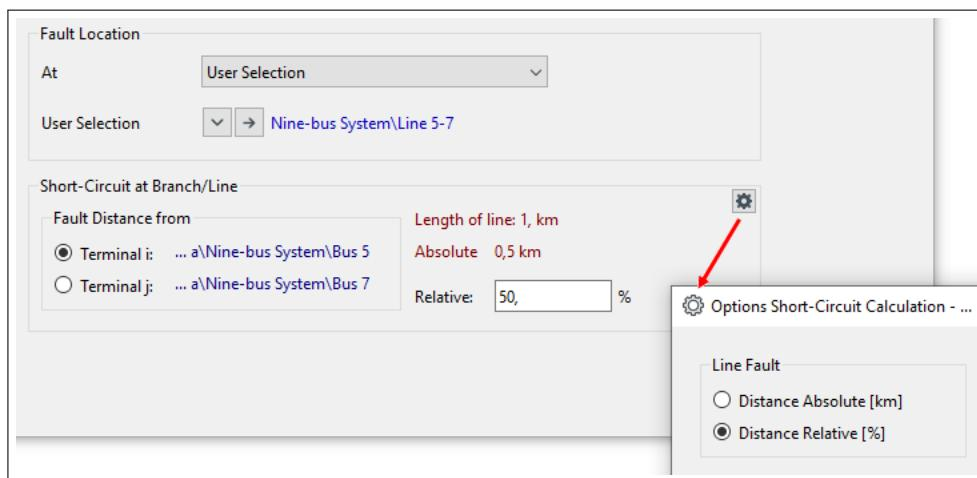

Figure 26.3.1: Configuration of Line/Branch Faults in *ComShc* dialog
- Right-click on the element and select *Calculation* → *Short-Circuit* .... The short-circuit command *ComShc* dialog opens and the user can then define the location of the fault relative to the element's length (see Figure 26.3.1), including which terminal the fault distance should be calculated from. It should be noted that the *Short-Circuit at Branch/Line* section of this tab is only available when a line or branch has been selected for calculation.